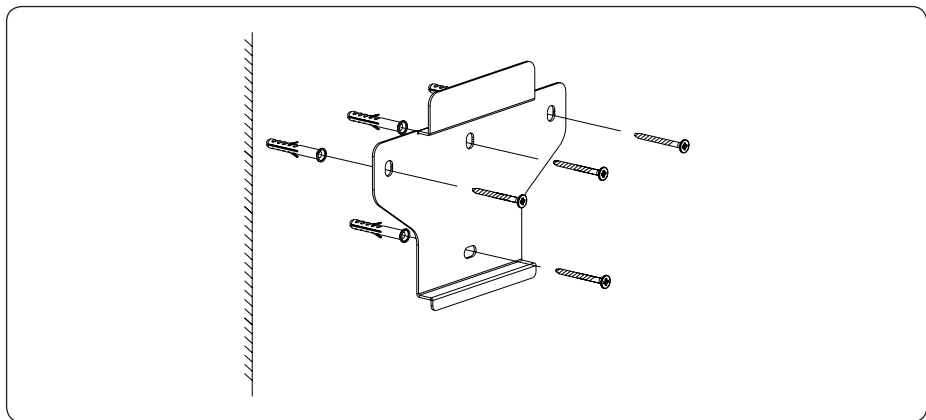

Figure 4-6 Fix the wall bracket
3) Insert the expansion tubes into the holes and tighten them, then fix the bracket onto the wall with expansion screws by using a cross screwdriver, as shown in Figure 4-6: